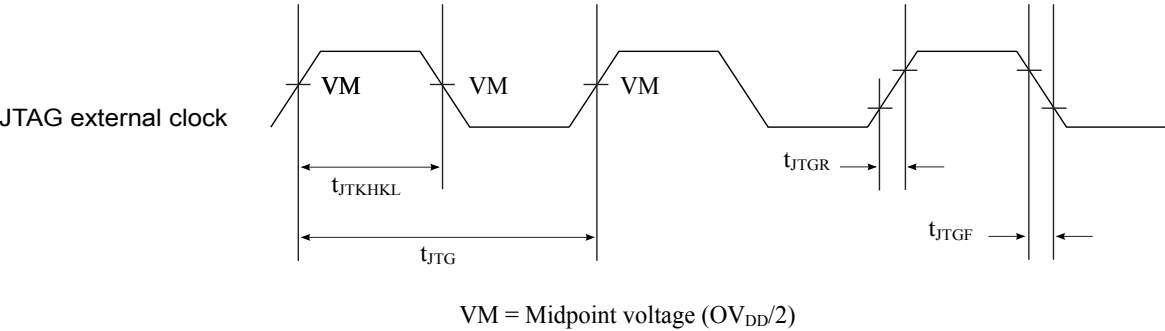
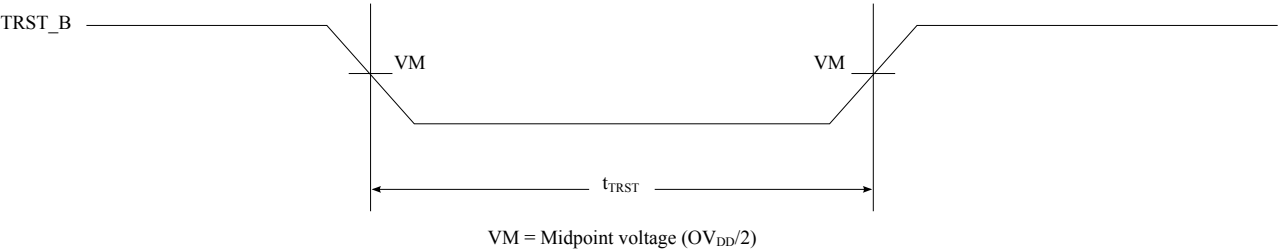
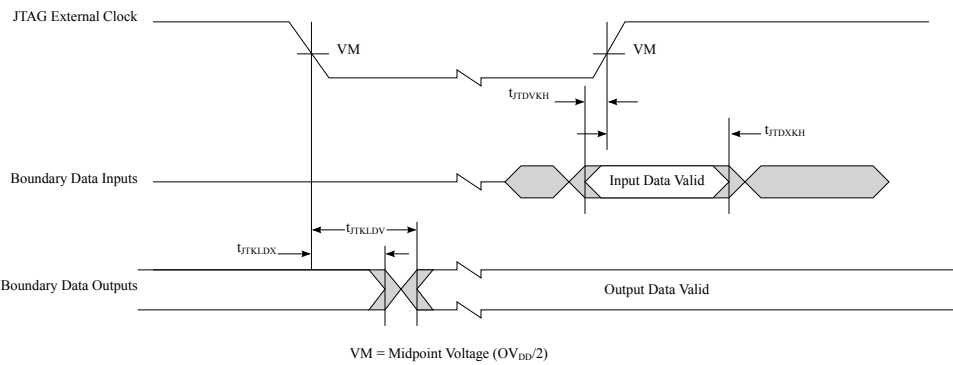

Figure 33. JTAG clock input timing diagram
Figure 34. TRST_B timing diagram
Figure 35. Boundary-scan timing diagram
This table provides the JTAG AC timing specifications as defined in Figure 32, Figure 33, Figure 34, and Figure 35.
5. See Figure 33.
6. See Figure 34.
7. See Figure 35.